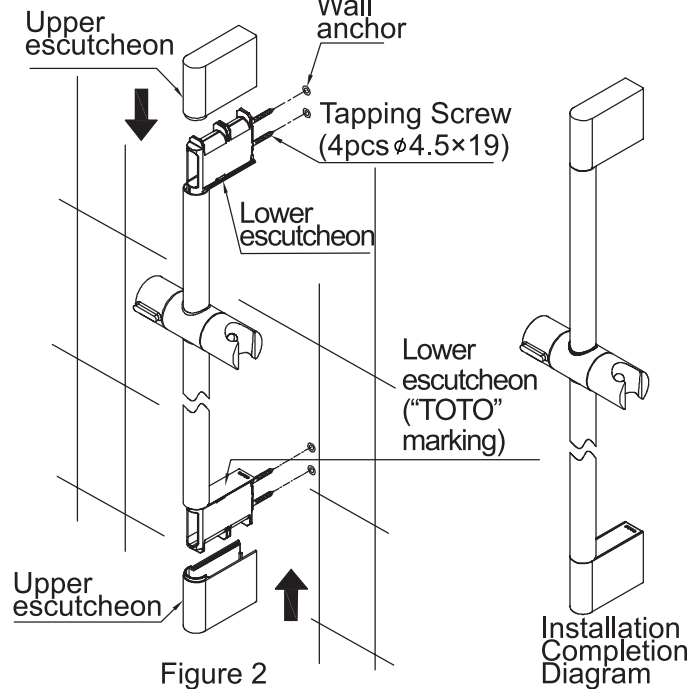

Figure 2
- 如图2, 将滑动式淋浴支架组装起来, 固定座与杆的缺口要充分卡紧, 用自攻螺钉将上、下两端的固定座固定在墙上, 用螺丝刀拧紧; (注: 由于塑料材质, 注意力度, 以免损坏固定座) 按图示方向将两个上装饰盖与固定座充分卡紧, 完成产品安装。
- 注意: ①安装前请确保墙面平整, 务必仔细确认好两固定座间的距离。
②安装或拆卸时不要划伤电镀表面。
③滑动座不可装反。(手柄在左侧, 旋钮紧锁时手柄扭朝向自己)
④安装前要确保下装饰盖与固定座充分卡紧, 带"TOT0"字样的下装饰盖要安装在下面的固定座上。
2. As shown in Figure 2, assemble the slide bar, clamp well the notches of the bracket and slide bar, then fasten the fastened brackets at the upper and the lower ends with tapping screws, and screw in with a screwdriver. (**Note: As the fastened brackets are made of plastics, be sure to operate gently to prevent from damaging the brackets.**) As shown in the figure, clamp well the two upper escutcheons with the fastened brackets to finish the product installation.
- ① Before installation, please ensure that the finished wall surface is flat, and be sure to check the distance between the two fastened brackets.
- ② Do not scratch the chrome plating in the process of installation or disassembly.
- ③ Do not install the slide seat wrongly. (Handle on the left; rotate the handle toward user when fastening.)
- ④ Before installation, be sure to fully clamp the lower escutcheon with the fastened bracket. The lower escutcheon having "TOTO" should be installed onto the lower fastened bracket.